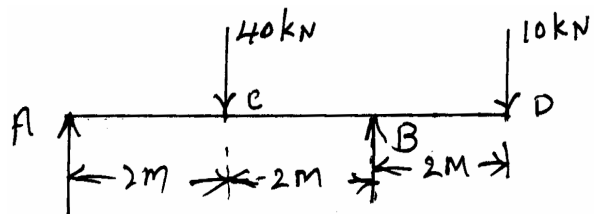

Fig.Q7(b)
- b. Determine the deflection under the loads in the beam as shown in Fig.Q7(b). Take flexural rigidity as EI throughout. (10 Marks)